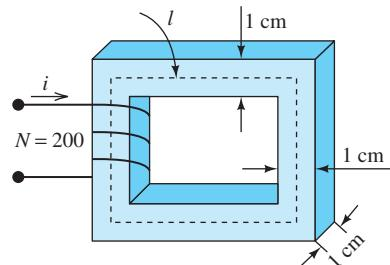

FIGURE P12.29 Magnetic circuit.
- 12.29 (A)** An inductor is desired with an inductance of 25 mH. In Figure P12.29, find the length, l , of the core that produces this inductance given $\mu_r = 1000$.